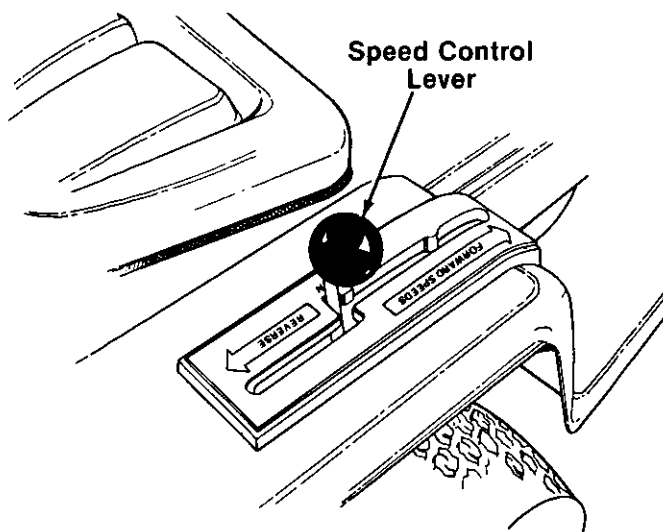

FIGURE 12.
2. Start the tractor in motion by moving the speed control lever slowly forward or rearward to desired speed. See figure 12.
If the speed control lever does not return to the neutral notch on the speed control lever guide when the brake pedal is depressed (see figure 12), make the following adjustment: